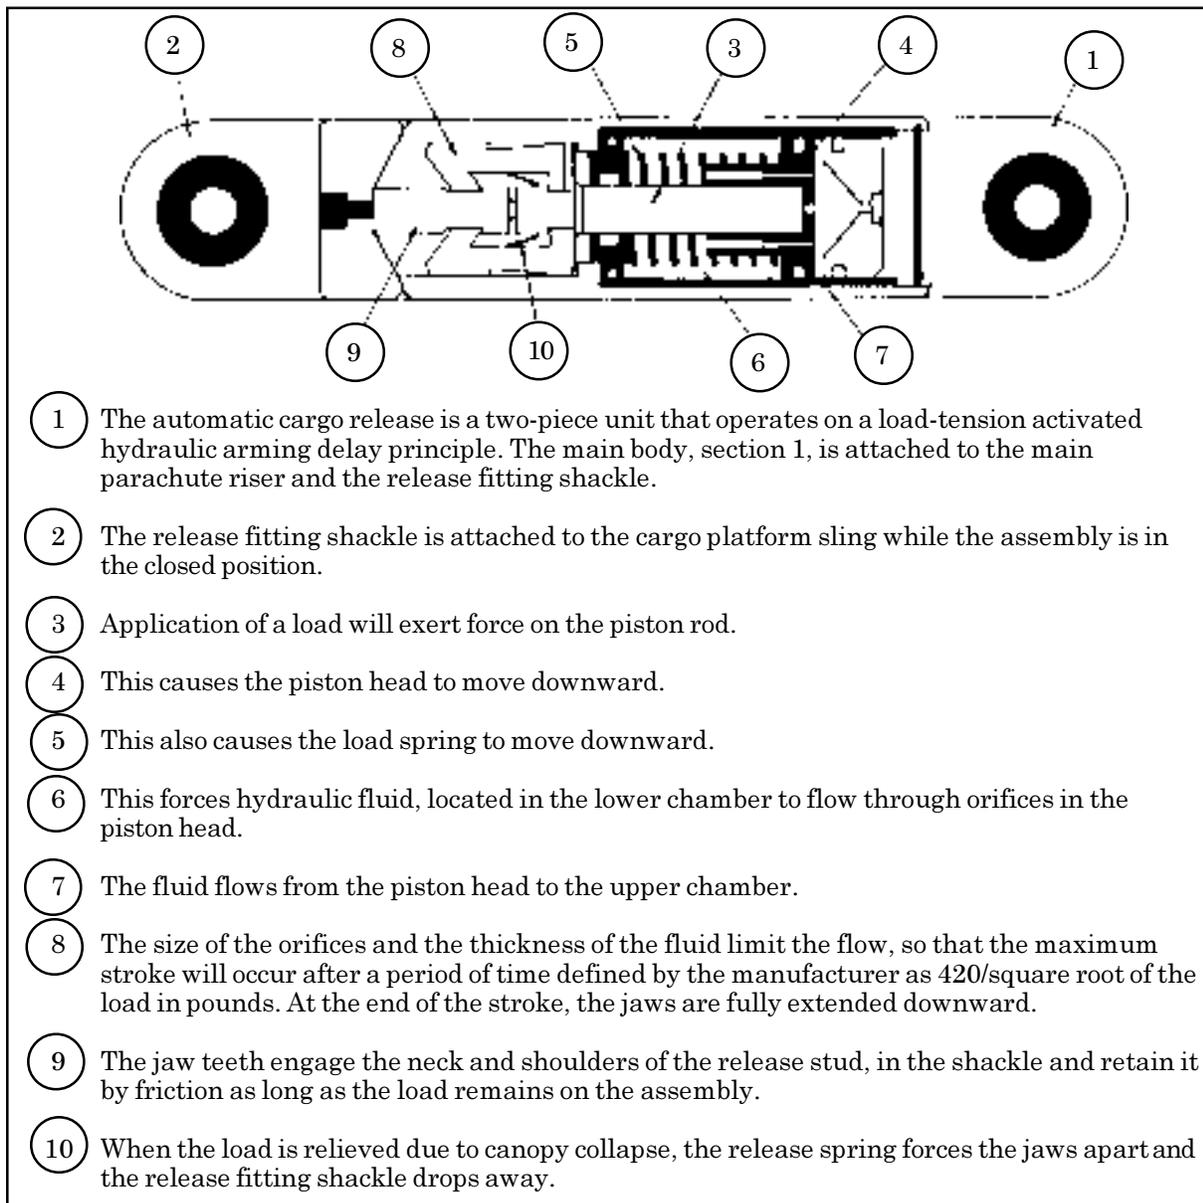

Figure 3-60. Physical and Functional Characteristics
a. Physical and Functional Characteristics. The physical and functional characteristics of the automatic cargo release are shown in Figure 3-60.
b. Original Receipt Inspection. After removing the unit from its packaging, visually verify that all components of Figure 3-60 are present and in acceptable condition for use (no corrosion, deformation, leakage, or other abnormalities). Perform a pre-drop activation test as shown in Figure 3-61.